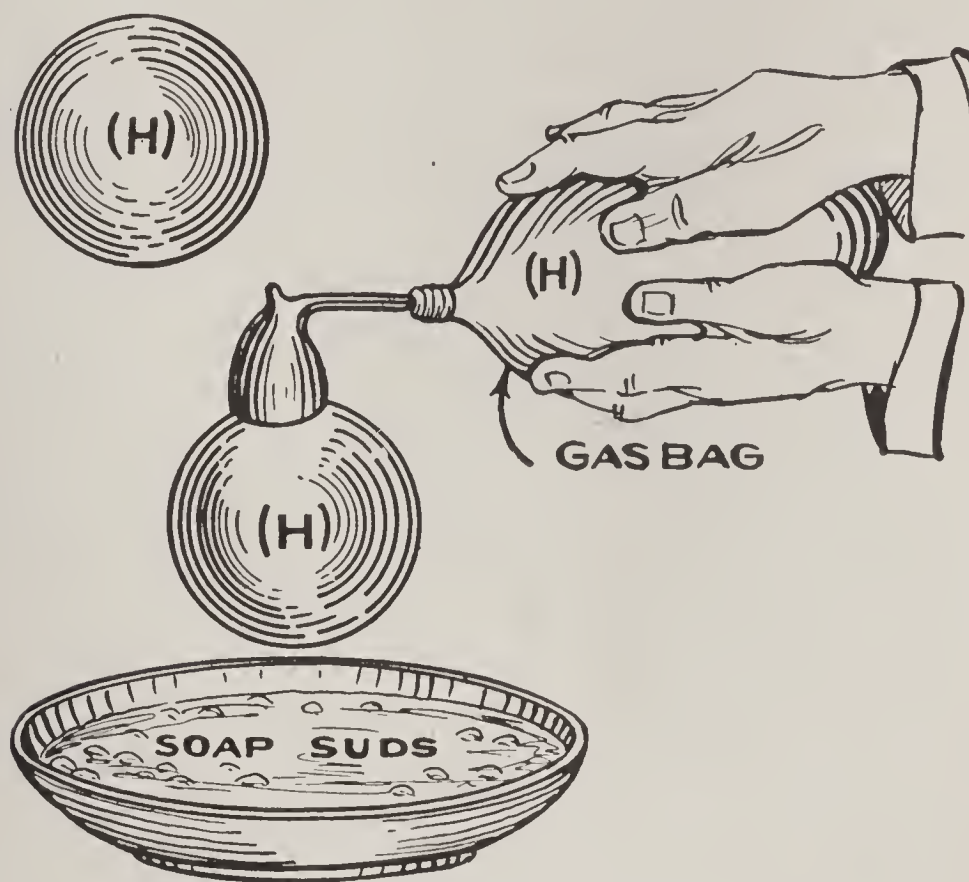

FIG. 85.—Blowing Hydrogen Soap Bubbles.
in Fig. 85. As hydrogen (H) is so much lighter than the air, the bubble will go up like a balloon, which it really is, and break when it strikes the ceiling. If, however, you hold a lighted match to it as it ascends, it will burst with a faint yellow flash and explode with a slight noise.